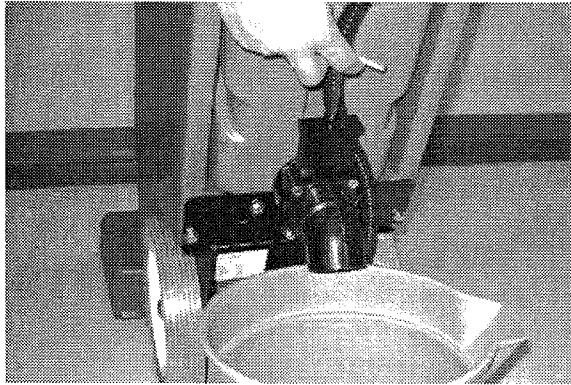

FIG. 10
2. Pull valve T-handle to empty dirty water (Figure 10).